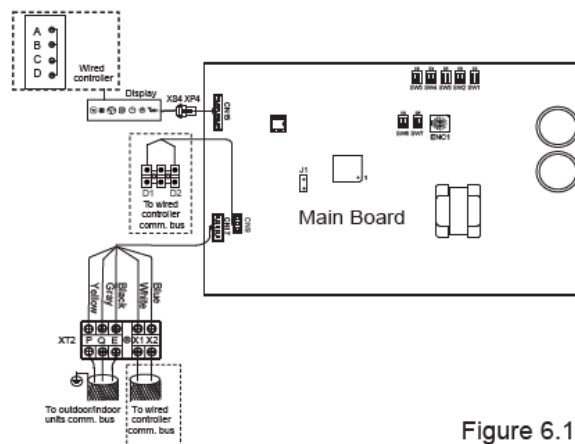

Figure 6.10
- The X1, X2, D1, D2 ports on the sides of the main control board and the unidirectional communication port (display board side) are for different types of wired controllers (see Figure 6.10).